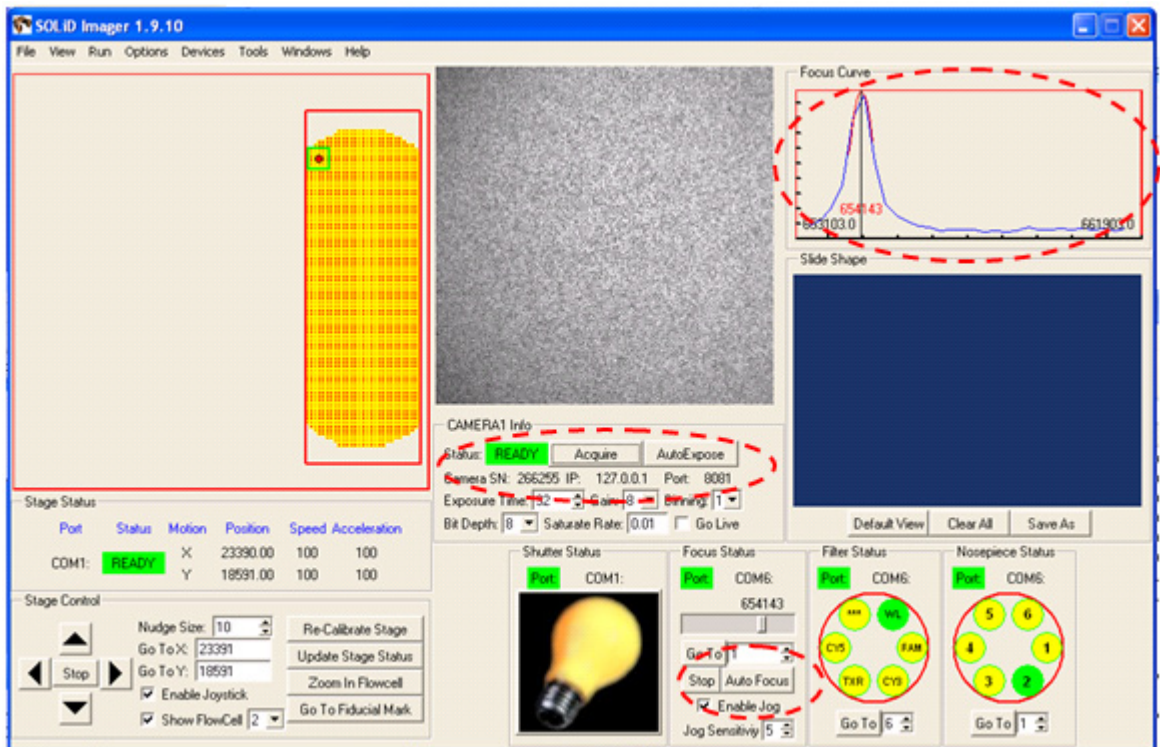

Figure 79 Click **AutoFocus** and **AutoExpose** so that the focus peak falls in the focus range.
- In the Imager window, click the **AutoFocus** button, then wait about 20 seconds for the Imager to focus on the slide (see Figure 79). The Camera 1 indicator displays BUSY while autofocus is running. When the Camera 1 indicator displays READY, click **AutoExpose**, then wait for the Camera 1 indicator to show READY. Click **AutoFocus** so that the Imager can focus again (this time with correct exposure settings). Note where the focus peak falls in the focus range by looking at the value that displays where the peak is located.